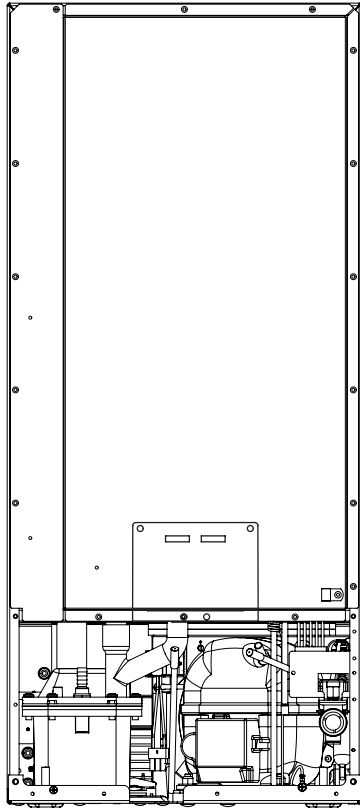

Figure 42
7. Disconnect the water valve's outlet water line to the reservoir and drain the remaining water left in the water line trap area. (See Figure 42 and 42a).
8. Reconnect the water valve outlet water line. (See Figure 42 and 42a).